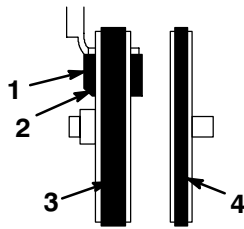

Figure 19
15. Make sure that the brake pad is properly installed on the brake arm. Position the angled cutoff on the brake pad as shown in Figure 19.
12. Make sure that the brake pad is properly installed on brake arm. Position the angled cutoff on brake pad as shown in Figure 19.